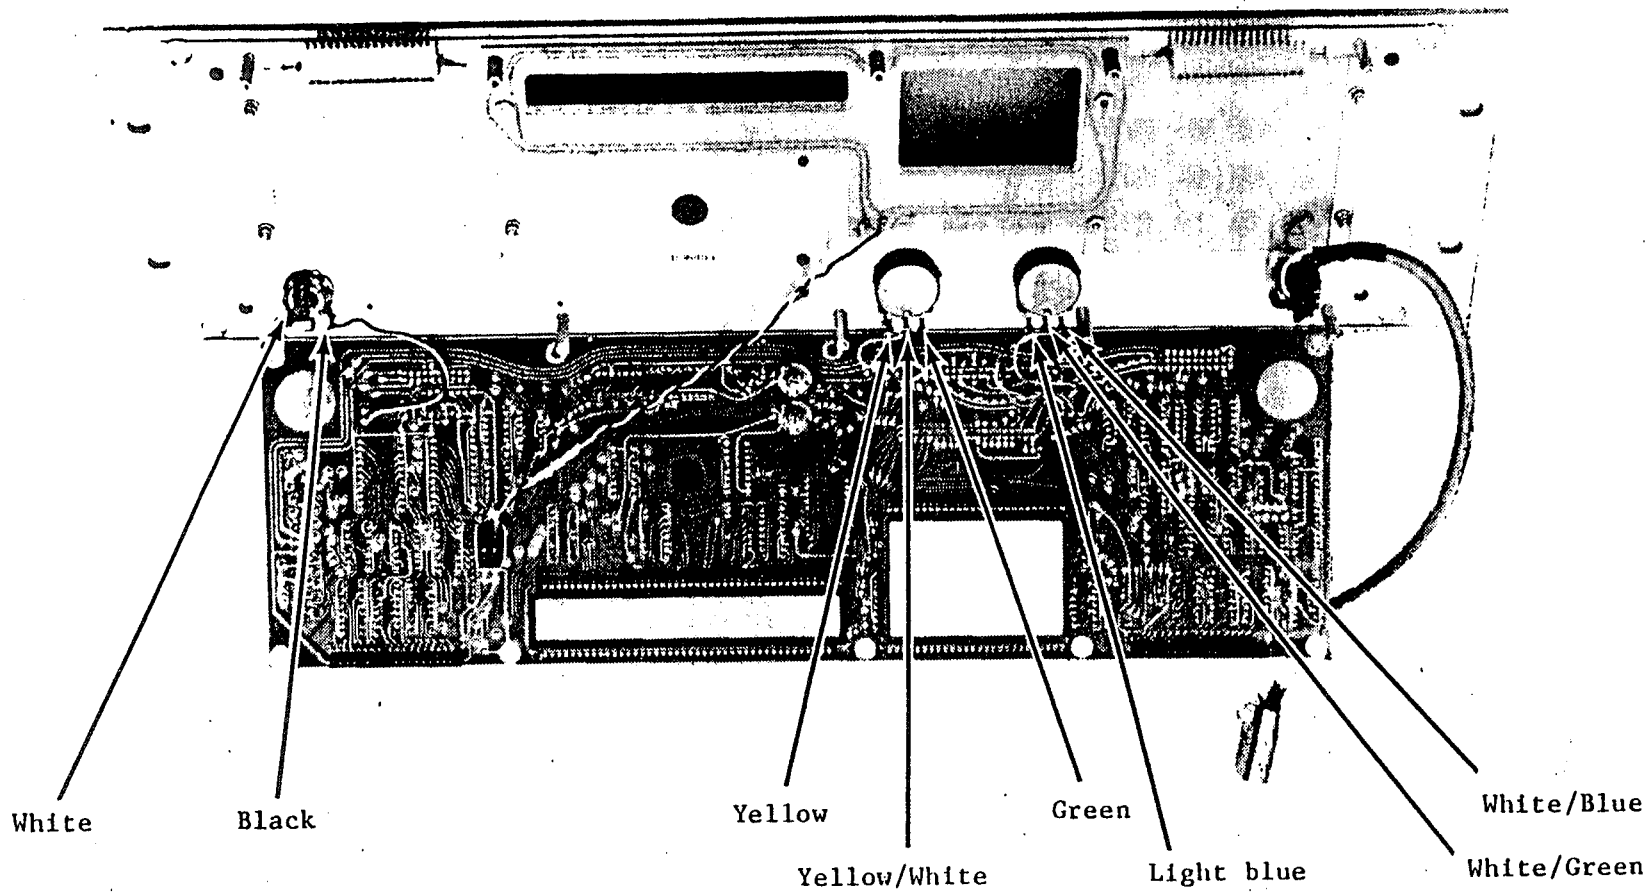

Figure 5-3. Wiring Detail, A9 Circuit Card Assembly
19. Disconnect three pin connector W1P1 from A9J8 on the A9 module. Refer to Figure 5-3.